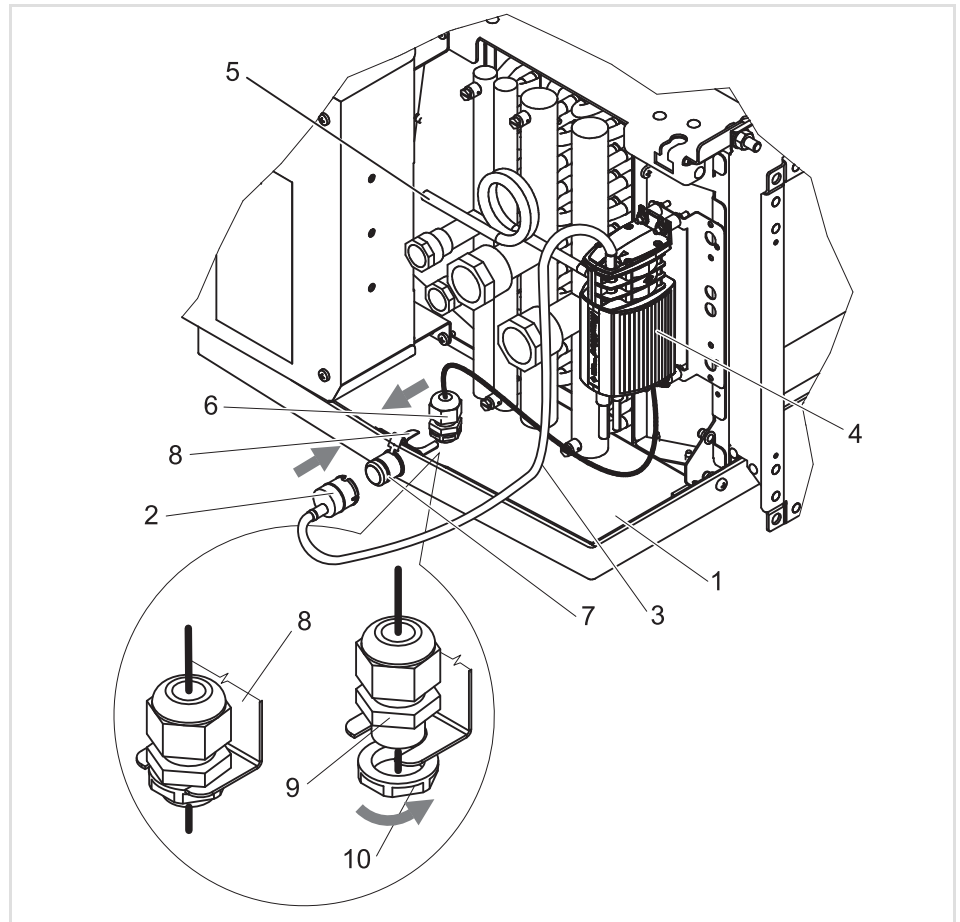
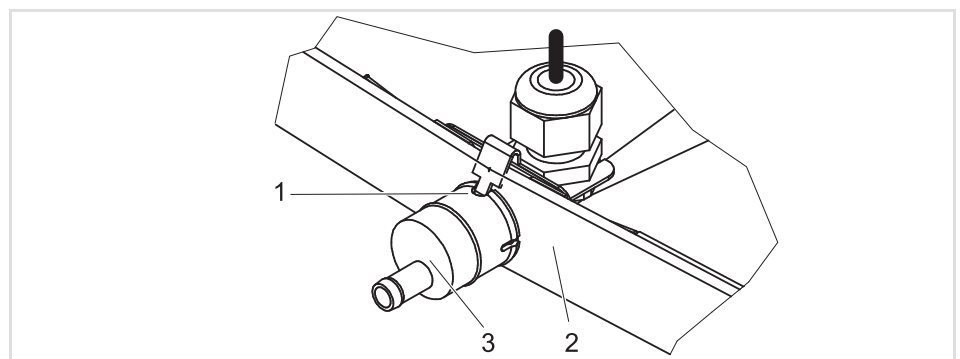

Fig. 5-20: Connecting condensate pump
Fig. 5-21: Assembly of the end piece of the pump suction hose assembly
- Execution including fill level sensor (see Fig. 5-20, Pos. 6) attach to the bracket (see Fig. 5-20, Pos. 8) and secure the cable penetrations with a nut (see Fig. 5-20, Pos. 10).
- Lubricate the drain connection of the condensate tray including its O-ring (see Fig. 5-20, Pos. 7) with lubricant. Set the plastic end piece of the suction hose of the condensate pump (see Fig. 5-21, Pos. 3) on the outlet fitting of the condensate tray (see Fig. 5-21, Pos. 2) until it sits firmly. For the assembly of the end piece, be sure that the half-round hole at the edge of the end piece (see Fig. 5-21, Pos. 1) is on the upper side.